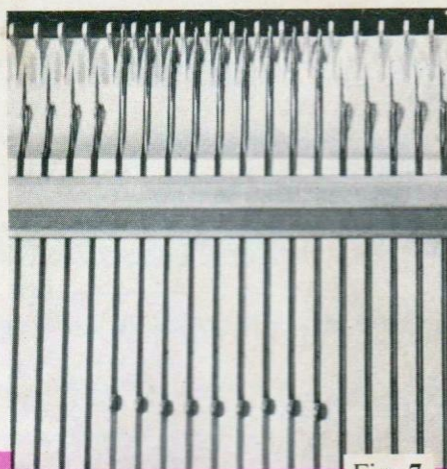

Fig. 7
- 2 Working position —The hook of the needle with the latch open, projects just beyond the flow combs (Fig. 7).